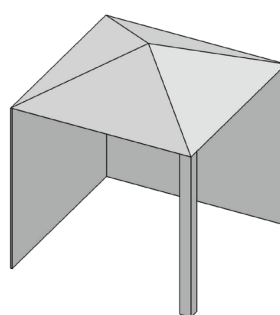
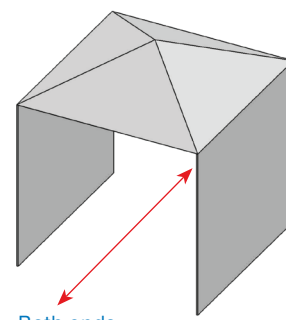

Fig. 2
Fig. 3
- Within a partial enclosure that includes an overhead cover and no more than two sidewalls. These sidewalls may be parallel, as in a breezeway, or at right angles to each other. (Fig. 2 & Fig. 3)